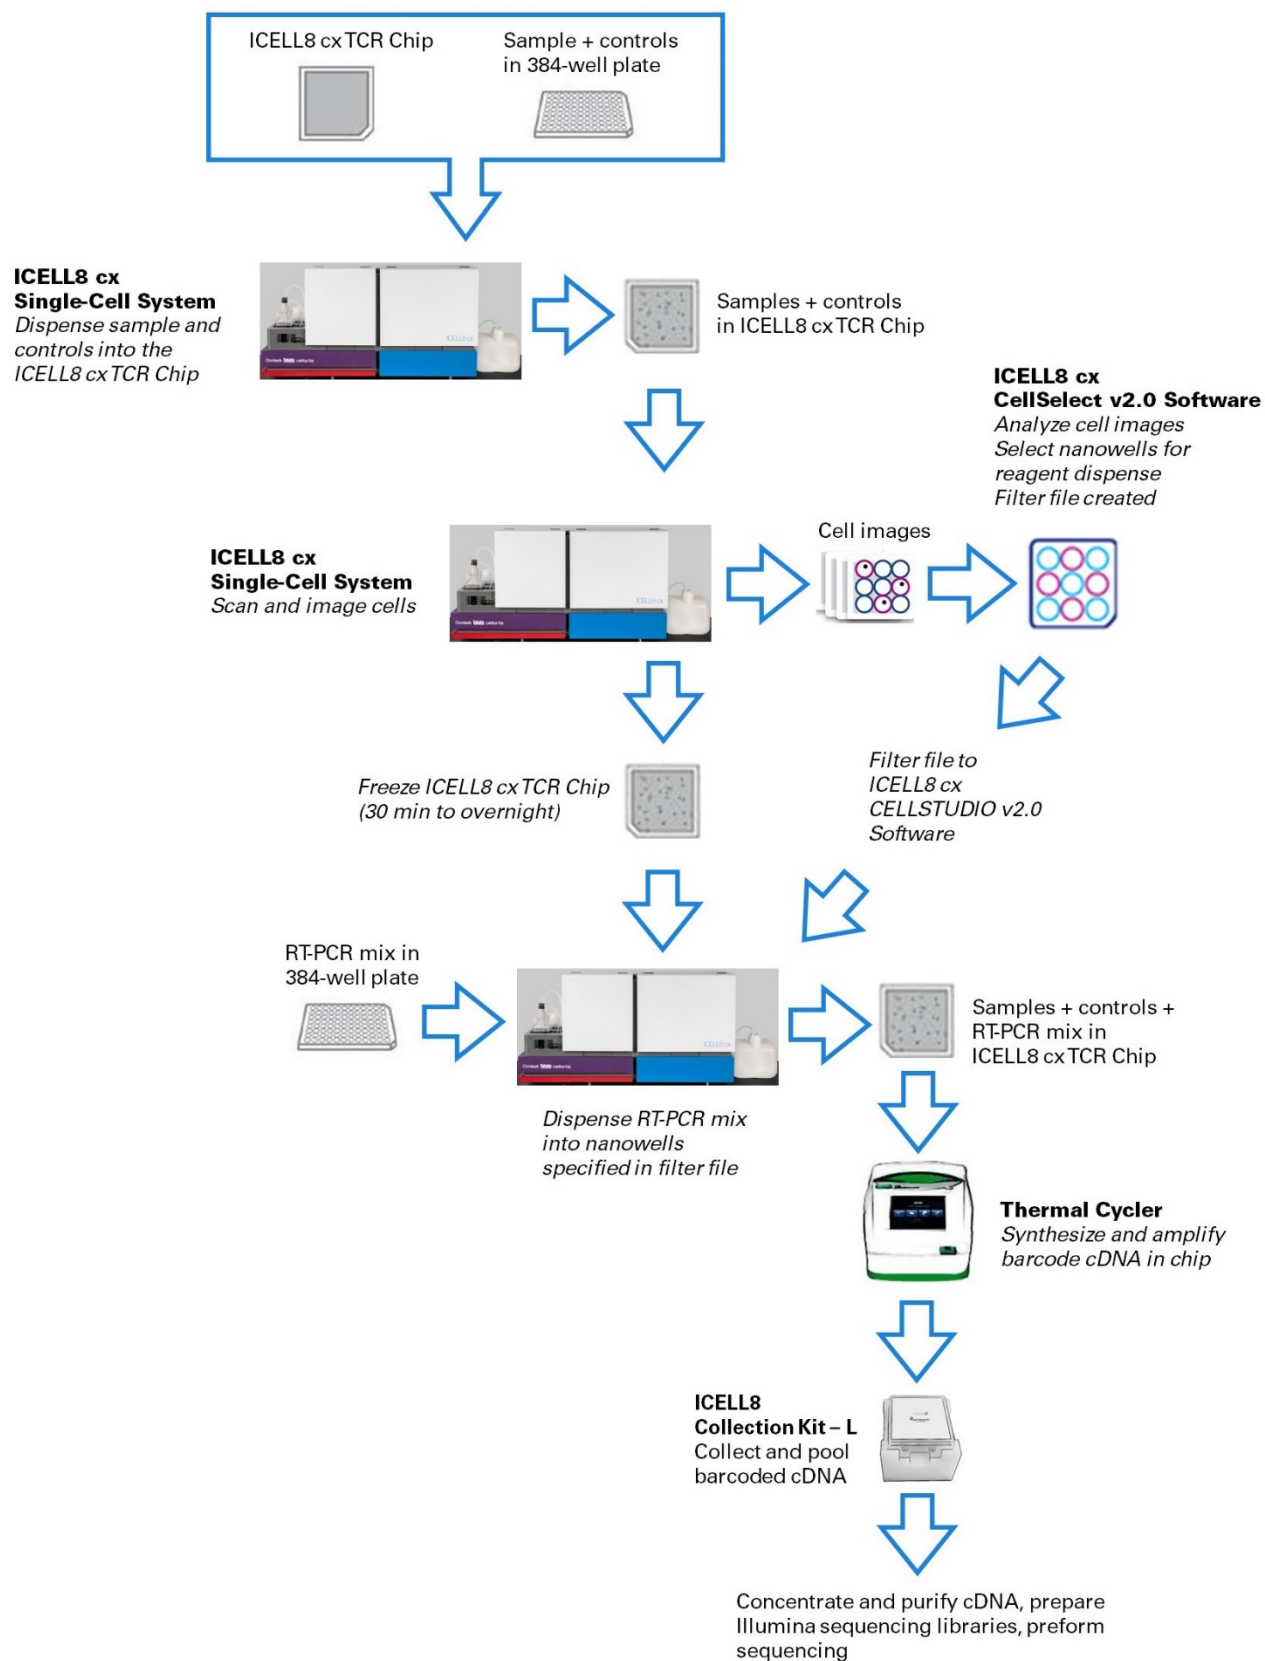

Figure 1. Workflow diagram for the ICELL8 cx Human TCR a/b Profiling workflow.
The workflow (Figure 1, below) begins with staining and dilution of cell samples and the preparation of positive and negative controls, followed by the dispensing of the cells and controls using ICELL8 cx CELLSTUDIO™ v2.0 Software on the ICELL8 cx Single-Cell System into the wells of a 5,184-nanowell ICELL8 cx TCR Chip. A total of 1,728 unique barcoded oligos are preprinted in nanowells of each chip, and each barcode is printed three times on a chip. As many as eight different samples can be analyzed in a single run, and the dispensing process is completed in approximately 15 minutes. During this time, cells are maintained in the humidity- and temperature-controlled environment provided by the ICELL8 cx Single-Cell System.
Following the freezing of the ICELL8 cx TCR Chip, the chip is returned to the ICELL8 cx Single-Cell System and RT-PCR reagents are distributed to nanowells selected by the software. The ICELL8 cx TCR Chip is then transferred to a thermal cycler (for Cat. No. 640188, the ICELL8 cx Thermal Cycler), which is programmed to perform first-strand synthesis and amplification of cDNA in a single run. During this process (Figure 1), first-strand cDNA synthesis is dT-primed (oligo dT amp primer) and performed by the MMLV-derived SMARTScribe™ Reverse Transcriptase (RT), which adds nontemplated nucleotides upon reaching the 5' end of each mRNA template. The 5' SMART barcoded primer, preprinted into each nanowell of the ICELL8 cx TCR Chip, anneal to these nontemplated nucleotides and with template-switching technology adds an adapter and nanowell-specific barcode to the 5' ends of full-length cDNAs. The added adapter then serves as a priming site during the PCR amplification portion of the program, allowing for unbiased amplification of full-length cDNA. The barcoded cDNAs from each nanowell are pooled, concentrated, and purified off-chip using AMPure XP beads. The purified cDNA can also be used for generating Illumina sequencing libraries using the Nextera® XT DNA Library Preparation kit, to enrich for cDNA derived from mRNA 5' ends as described in Appendix E. After